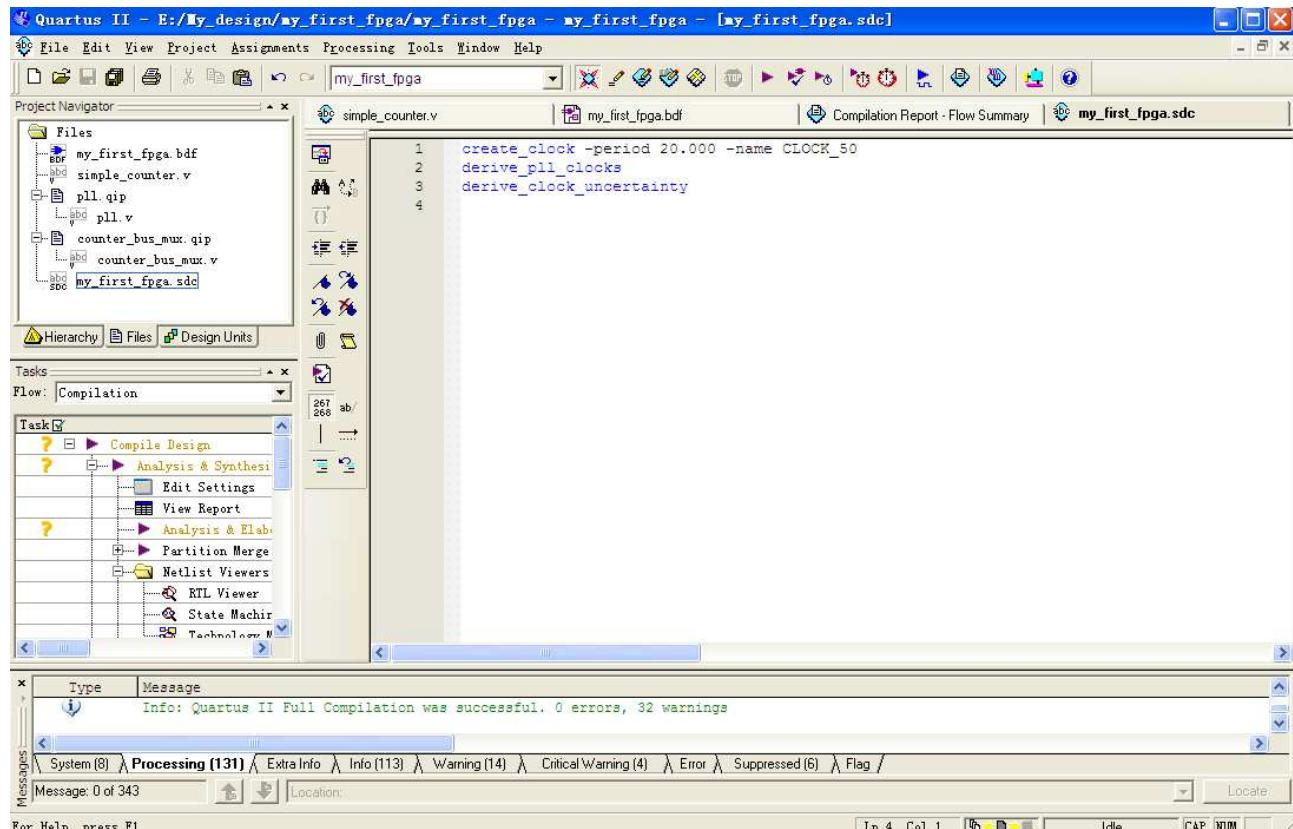

Figure 3-32 Default SDC
4. Save this file as my_first_fpga.sdc (see **Figure 3-32**)